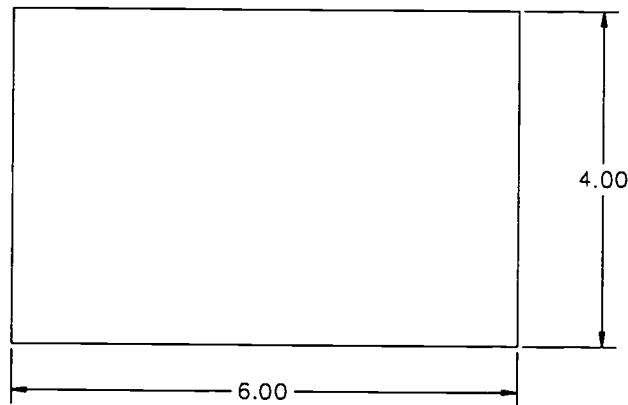

Figure 1
1. Use the **Rectangle** command to create the 6 X 4 Rectangle as shown in figure 1.